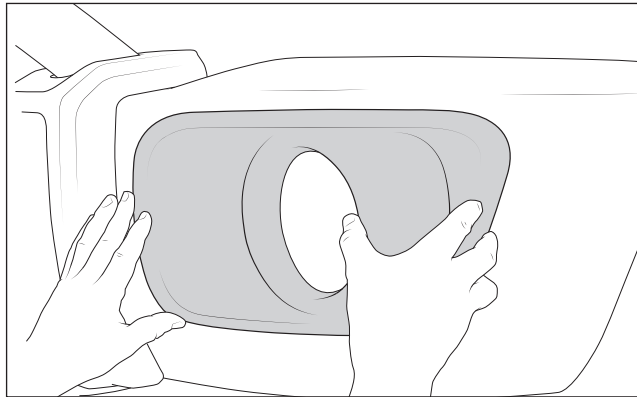

Figure 43
- Carefully position the bezels on the bumper and press firmly. Use several strips of painter's tape to hold the bezel in place until the RTV cures (fig. 43).